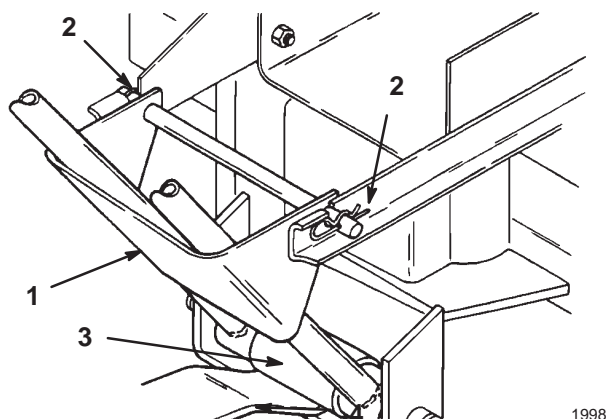

Figure 23
1. Lower the quick-attach bracket into the notches in the support brackets on the tractor frame and onto the drawbar hitch (Fig. 23).
2. Secure the quick-attach bracket rod with 2 hairpin cotters (Fig. 23).